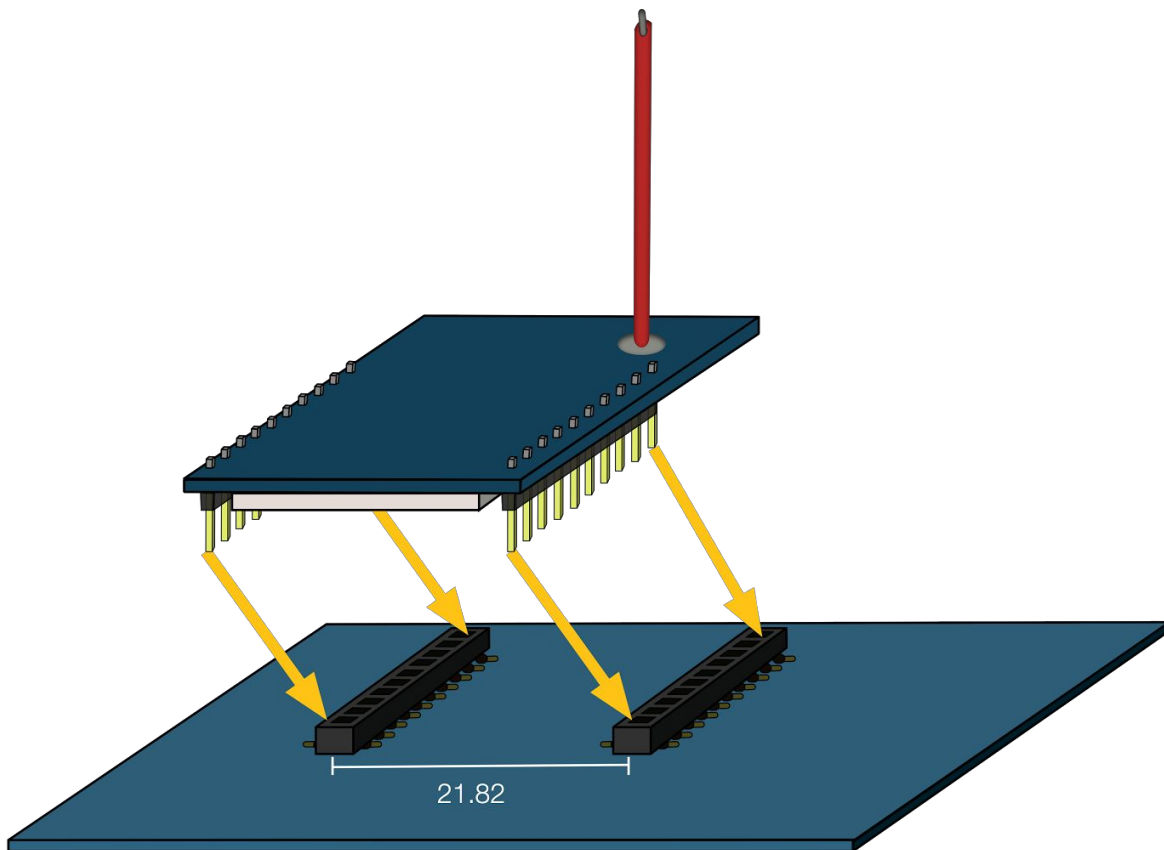

FIG 4.0
- The monopole antenna should stand perpendicular to the module (see FIG 4.0).